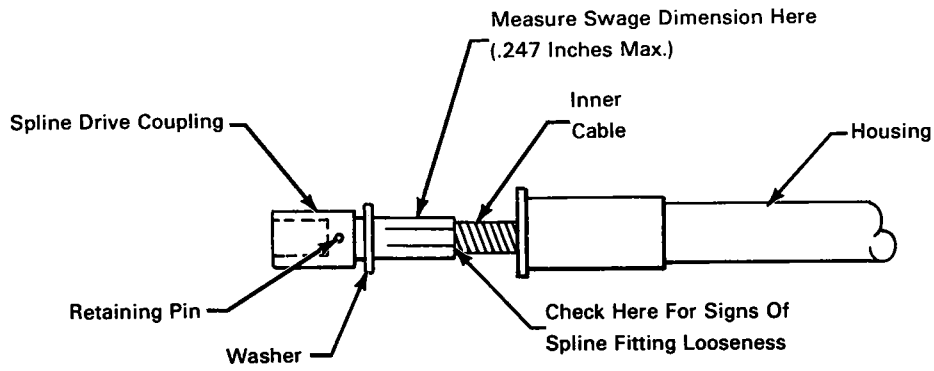
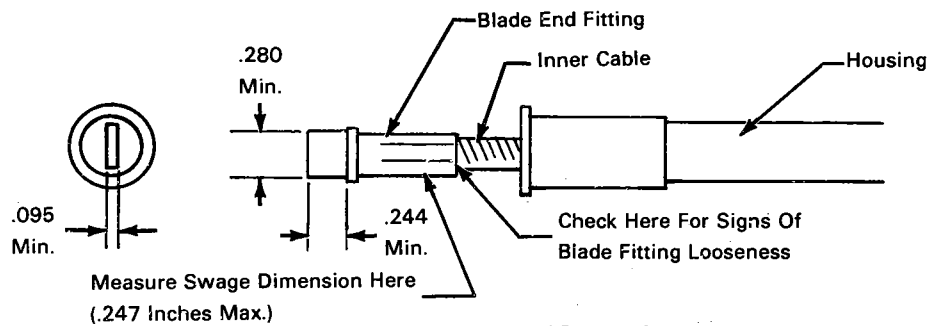

FIGURE 2
FIGURE 4
4. Visually inspect the flexible shaft splined drive coupling and retaining pin for evidence of looseness on the cable swage fitting. (Ref Sketch D, Figure 2.) If any looseness is apparent, replace the flexible shaft assembly.
- a. Expose the swaged portion of the inner cable at the motor end by twisting the outer housing two (2) turns clockwise. The swaged portion of the cable should have eight (8) flats clearly visible and free from deep scratches or wear marks. (Ref Sketch D, Figure 2.)
- b. Using a micrometer, or dial caliper, measure the diameter of the swage for each of the flats at the middle of the swaged portion of the cable. A total of four (4) measurements should be taken. If any of the measurements exceed .247 inches, replace the drive shaft
- d. Inspect the drive blade dimension as shown in Sketch E, Figure 4.
- a. Expose the swaged portion of the inner cable at the motor end by twisting the outer housing two (2) turns clockwise. The swaged portion of the cable should have six (6) or eight (8) flats clearly visible and free from deep scratches or wear marks. (Ref. Sketch D, Figure 2.).
Page 19 of 21, Sketch D, Figure 2, and
Page 20 of 21, Sketch E, Figure 4: